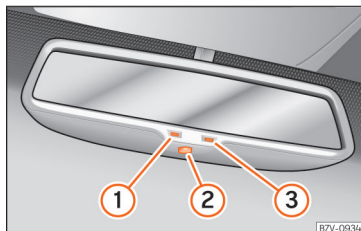

Fig. 124 Automatic anti-dazzle function for rear vision mirror
Key to Fig. 124:
- ① Control lamp
- ② Control
- ③ Light incidence sensor
This function can be activated and deactivated by pressing the rear-view mirror switch »» Fig. 124 ②. When it is activated, the warning lamp lights up ①.